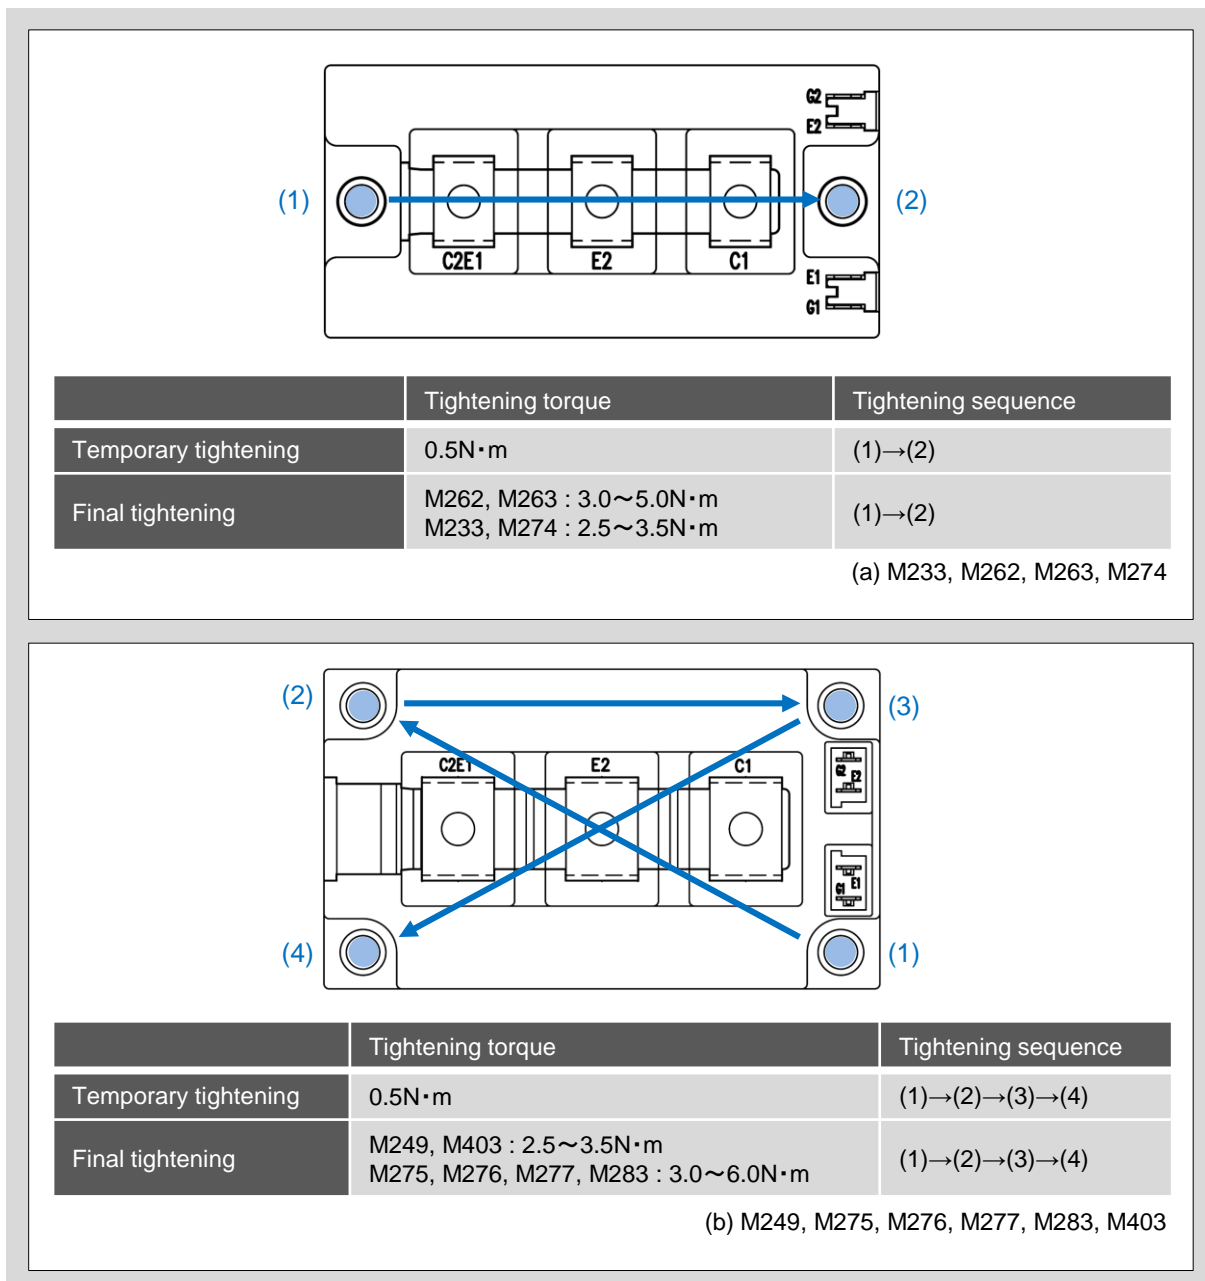

Figure 3. Tightening torque and tightening sequence
2. To fix the module with even force, first perform temporary tightening with  $0.5\text{N}\cdot\text{m}$ . Figure 3 shows the tightening sequence.